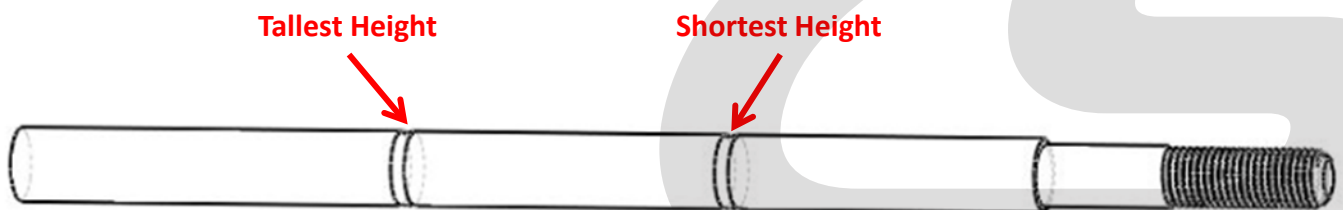

Figure 8b
To adjust height, loosen the two (2) 5mm hex screws on the adjustment body, and slide the shaft upward or downward. Lock the collar in place by evenly tightening the two 5mm hex screws. Downward adjustment is limited to the top notch in the shaft. Upward adjustment is limited to the bottom notch on the shaft. (Figure 8b) For max and min shift knob height, align the notch with the top of the adjustment body.